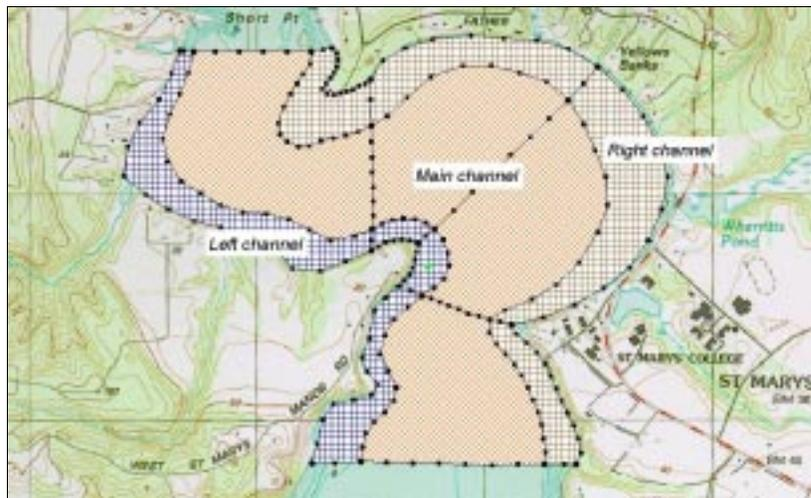

Figure 2-12 Polygons with defined material types.
3. In the *Feature Polygon Attributes* dialog, click the *Materials* button. In the *Materials Data* dialog, highlight the correct material for the polygon, as shown in Figure 2-12, and click the *Close* button.